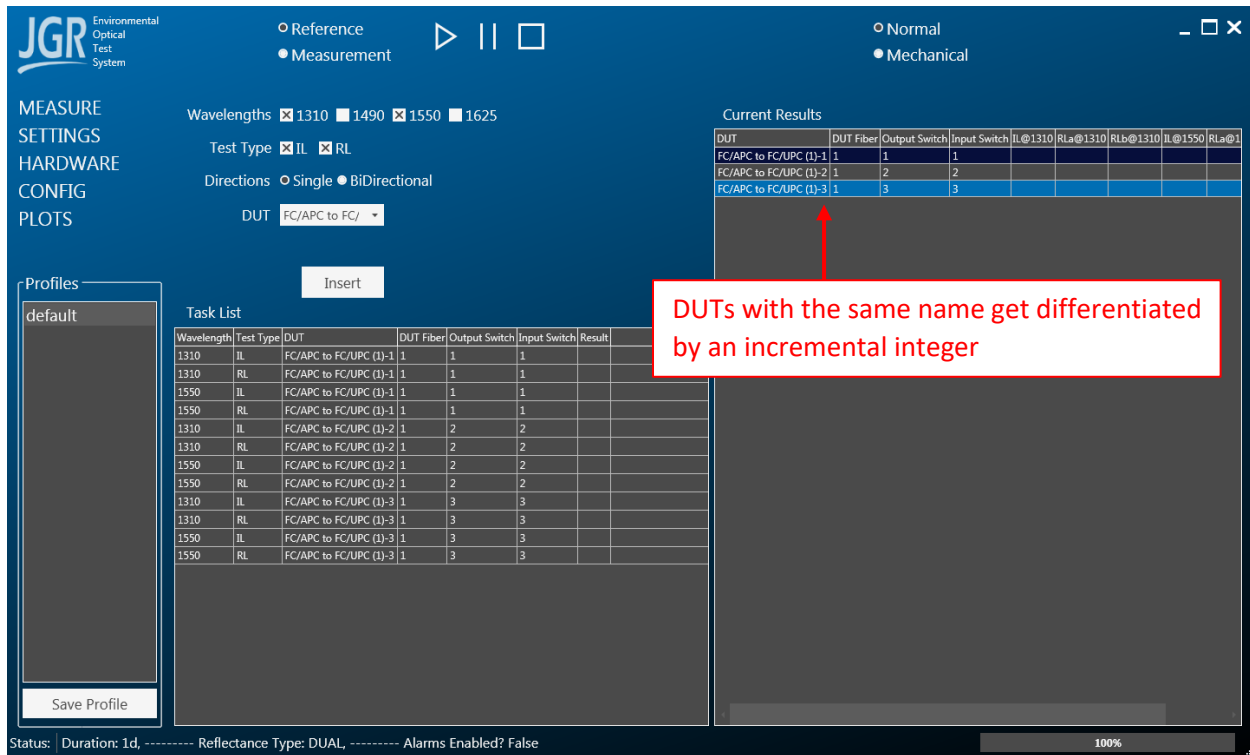
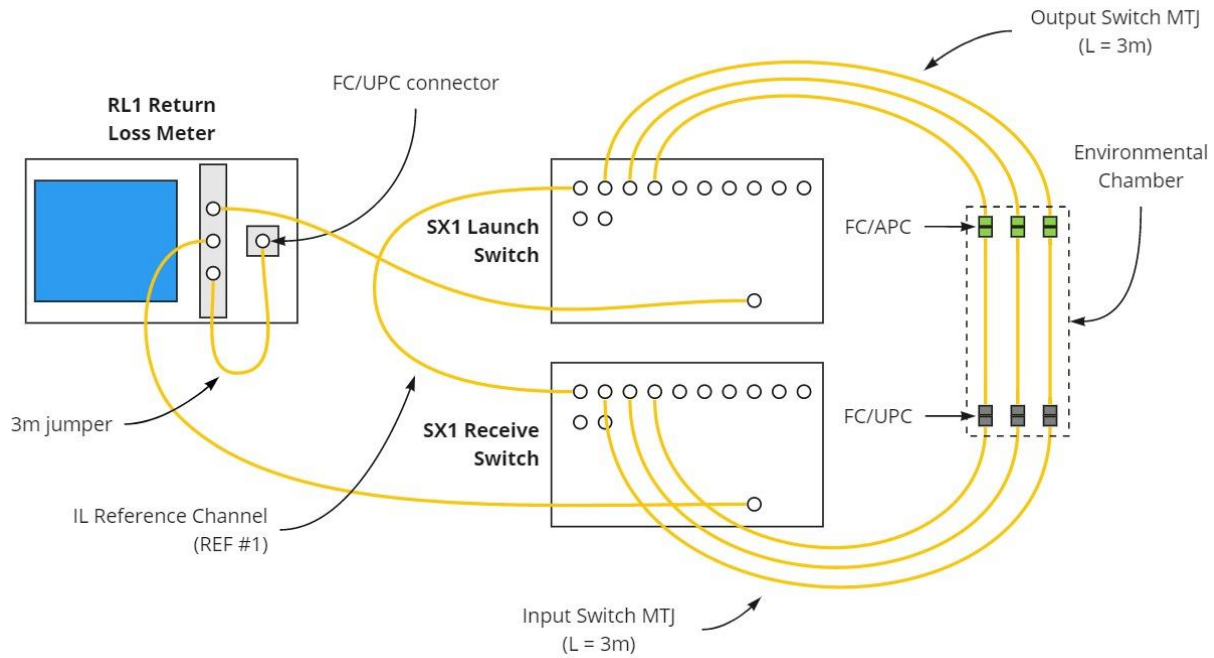

Figure 36: Enter multiple DUTs in a test sequence
Figure 37: Optical connections example
- Multiple DUTs can be entered in the sequence (Figure 36).
- For the test sequence of Figure 36 (with REF #1 = 1), the optical connections are seen in Figure 37.